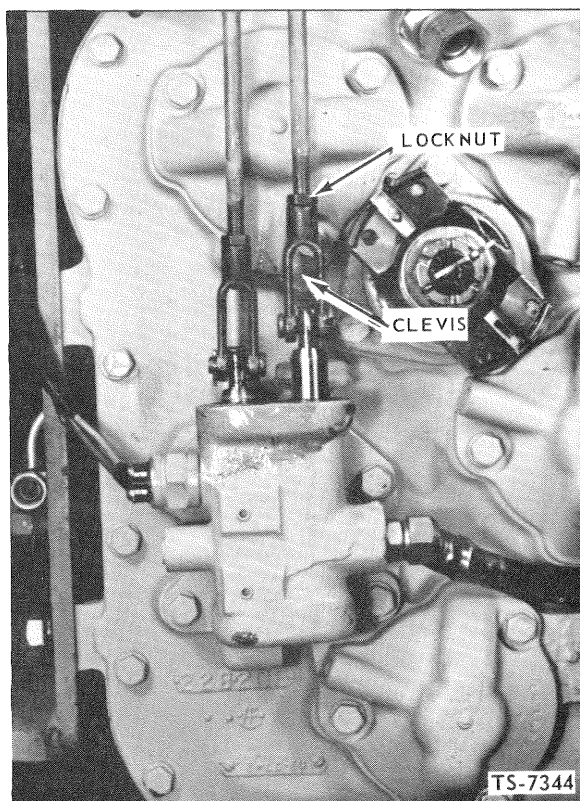

Fig. 17 Adjust Linkages at the Transmission
2. Loosen the locknuts and adjust the clevises and locknuts on the ends of both shift rods as necessary until the levers in the operator's compartment are correctly aligned. See Fig. 17.